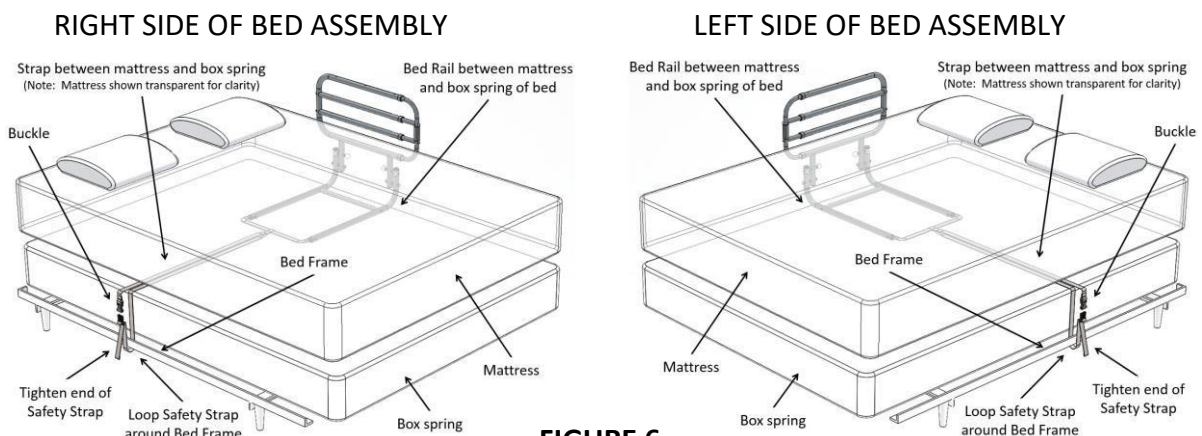

FIGURE 6
6. **IMPORTANT!!!** Secure the **SAFETY STRAP** to the bed frame, as shown in Figure 6. Unbuckle strap and loop strap around bed frame and re-buckle. Tighten strap to secure Handle Assembly against the side of the mattress. **DO NOT INSTALL PRODUCT WITHOUT SECURING THE SAFETY STRAP TO THE BED FRAME AS SHOWN IN FIGURE 6. IF YOU HAVE ANY QUESTIONS CALL STANDER AT (800) 506-9901 or (435) 755-0453.**